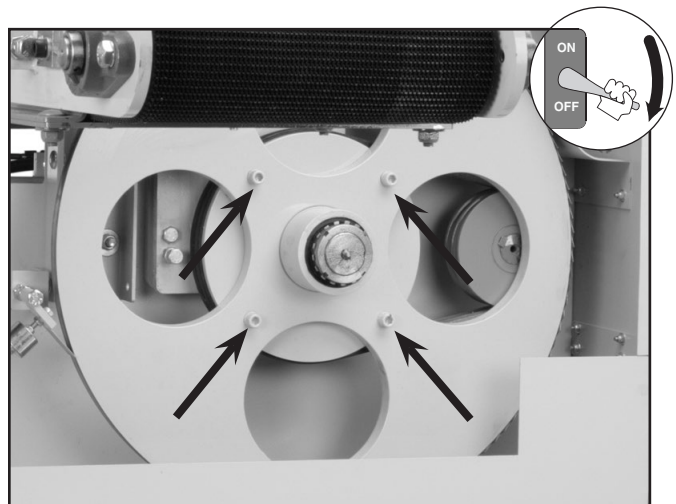

Figure 67. Drive wheel cap screws.
3. Place supports under the wheel and remove the cap screws shown in **Figure 67**.